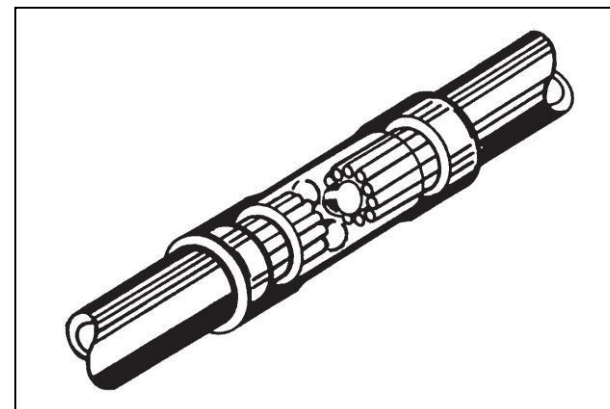

Figure 26
2. Insert stripped wires into the splice sleeve until they reach the wire stop located at the center of the sleeve (Figure 26).
1. Strip about 3/8" of the insulation from the ends of the wires to be spliced (Figure 26).